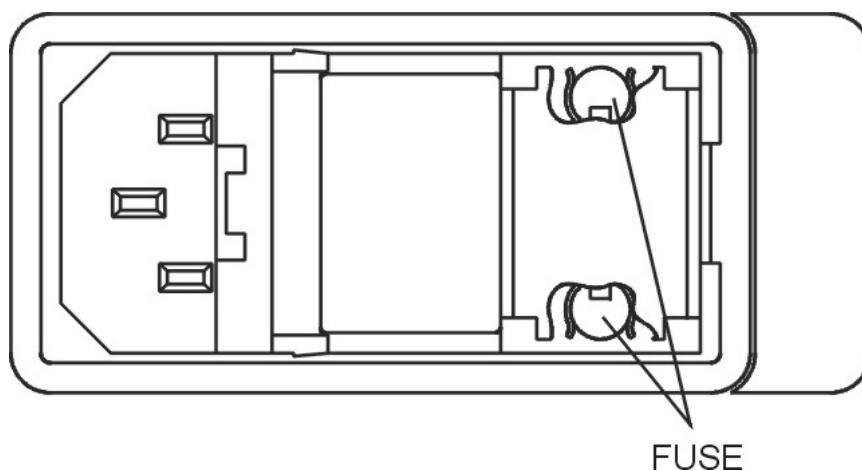

Figure 5-1: AC Fuse Replacement
2. The fuse receptacle is located in the power cord receptacle assembly in the upper left-hand corner of the rear panel. See Figure 5-1.
4. Remove the bad fuse and replace it with a 5x20mm 0.5 A, 250 VAC, IEC time lag (T) fuse (P/N F1130).